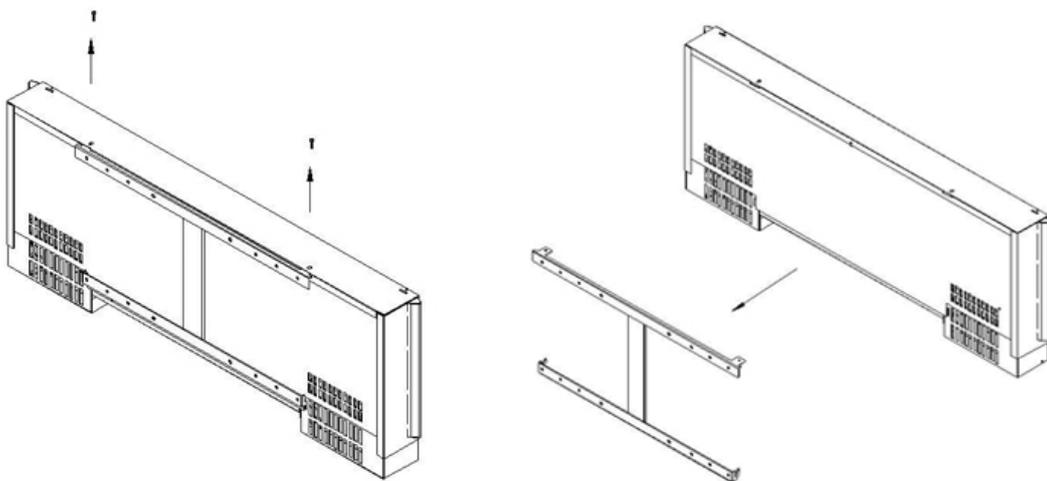

Fig.1
- Respectively loosen the two screws of the wall mounting bracket on the top of appliance with a screwdriver, Then take out the wall mounting bracket (see fig.1)